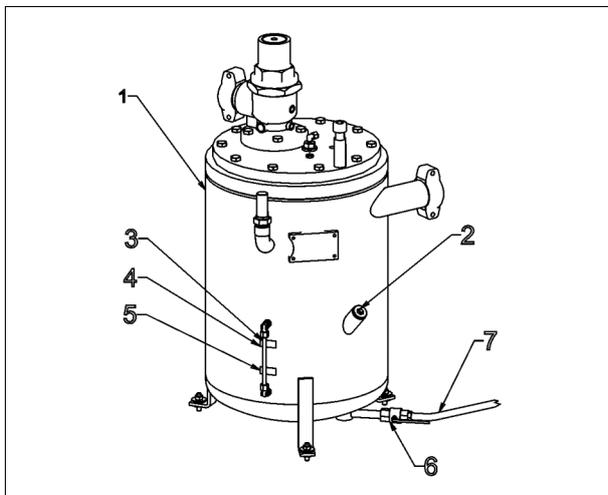

Fig. 19
- Slowly open the oil filler cap (- 2 - Fig. 19), to depressurize the screw compressor by releasing any residual pressure in the unit
- Open the oil drain (- 6 - Fig. 19) for the pressure reservoir and the oil cooler
- Drain oil at operating temperature through the drain hose (- 7 - Fig. 19)
- Fill in oil up to the marking "maximum oil level" (- 4 - Fig. 19) (ca. 54 litres) (ca. 14.3 US-Gal.)
- The oil level must be between the maximum level (- 4 - Fig. 19) and minimum level (- 5 - Fig. 19) marked on the oil reservoir.